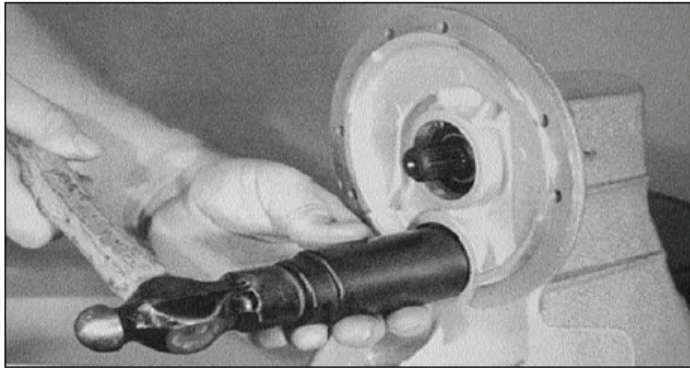

Figure 7-29. Installing Cup Plugs
15. Install new intermediate cup plug (17) to both sides of housing (1). Use Loctite Safety Solvent #75559 to clean bores, then apply Loctite RC 609 to housing bores. Cup plugs can be installed by using a properly sized driver and hammer. Cup plugs should be firmly seated against snap rings (16). See Figure 7-29.